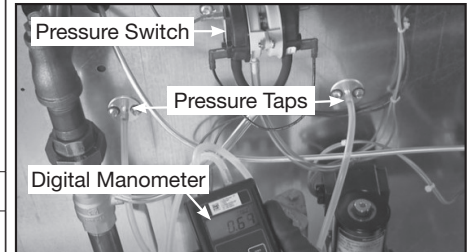

Fig. 1 Measuring the Pressure Drop
- Check burner pressure differential. **(Fig. 1)**